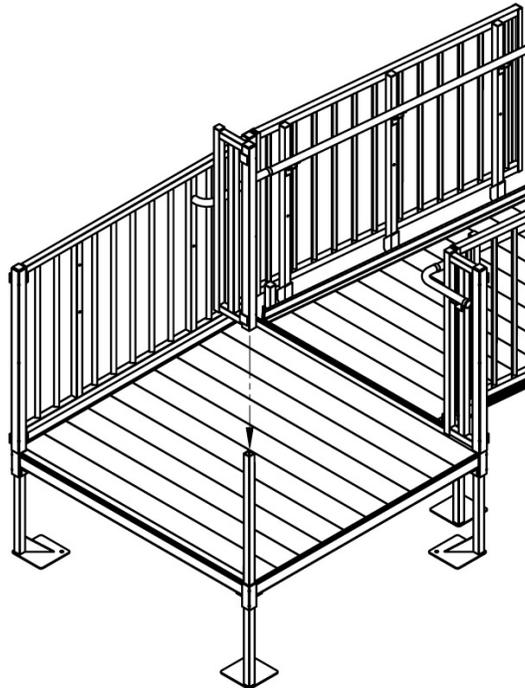

FIG. 4
- 2.3.1 On the side of the platform adjacent to the wall (where a platform guard would normally go) install a filler section over the platform leg closest to the wall with the tab brackets facing out and capped (FIG. 4).